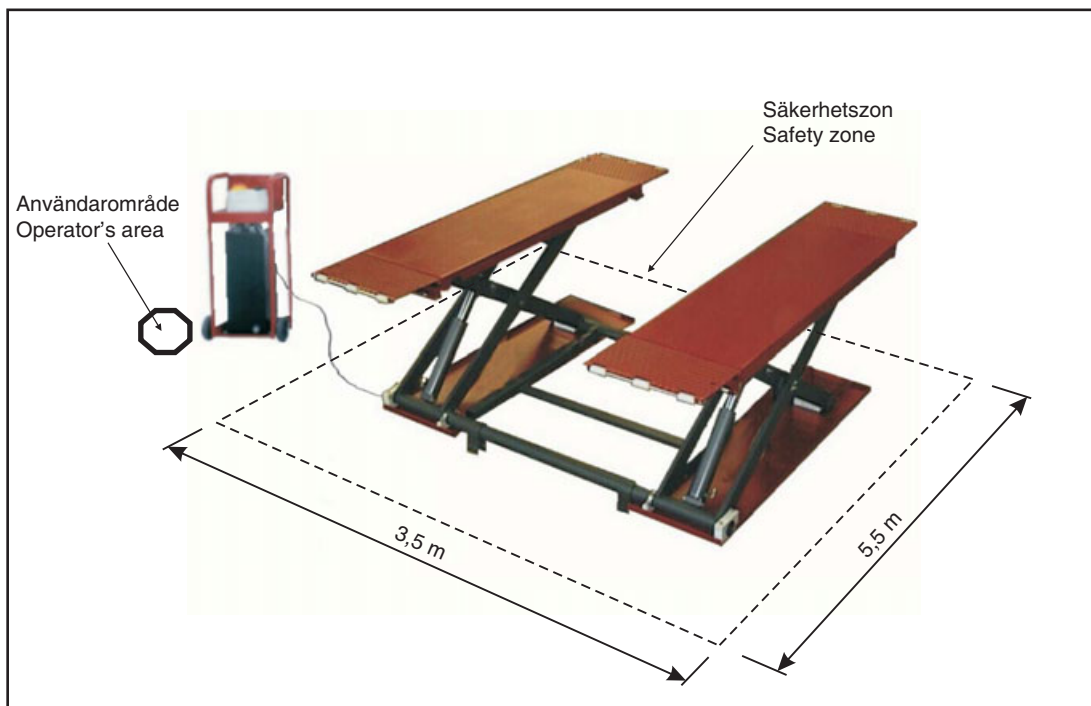

Fig.8
3. SÄKERHET (Fig. 8)
CHAPTER 3 SAFETY (Fig. 8)